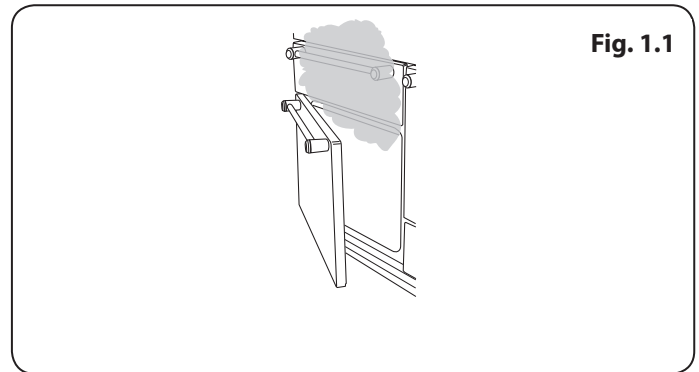

Fig. 1.1
- Cooking high moisture content foods can create a 'steam burst' when the oven door is opened (**Fig. 1.1**). When opening the oven, stand well back and allow any steam to disperse.